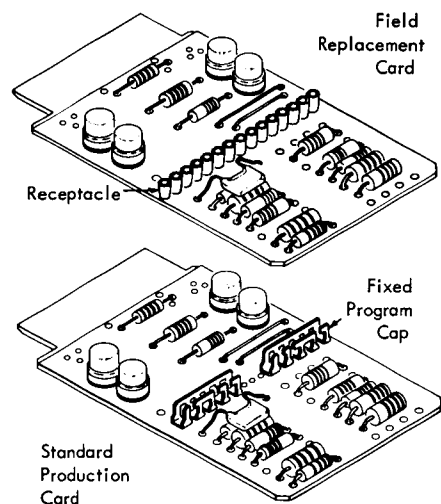
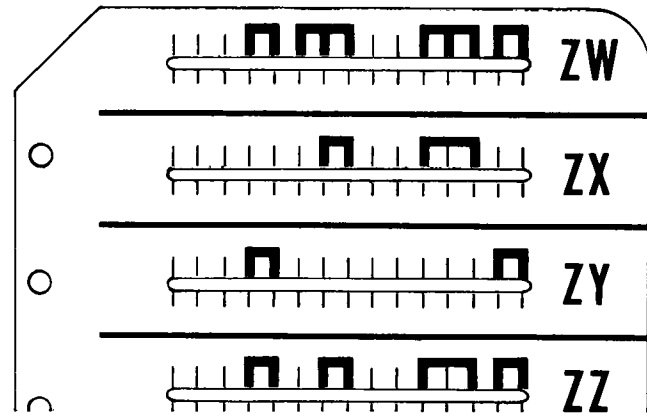

Figure 87. Field Replacement Card and Standard Production Card
Figure 88. Cap Code Index and Template
2. Field replacement cards have barrel-type program receptacles, P/N 216258, assembled on each card, in contrast to the factory programmed cap used on production cards. Programming is accomplished by selectively cutting a pluggable contact strip, P/N 216259, to obtain the specific jumpering required. The strips are inserted into the barrel receptacles. Figure 87 shows a field replacement card and a factory card. Figure 88 shows an index and a cap code template from cap kit, B/M 451271. Use the index to select the proper field replacement card; use the template for the cap code desired. The cap kit and the pluggable contact strip, P/N 216259, are all that is necessary to use field replacement cards.